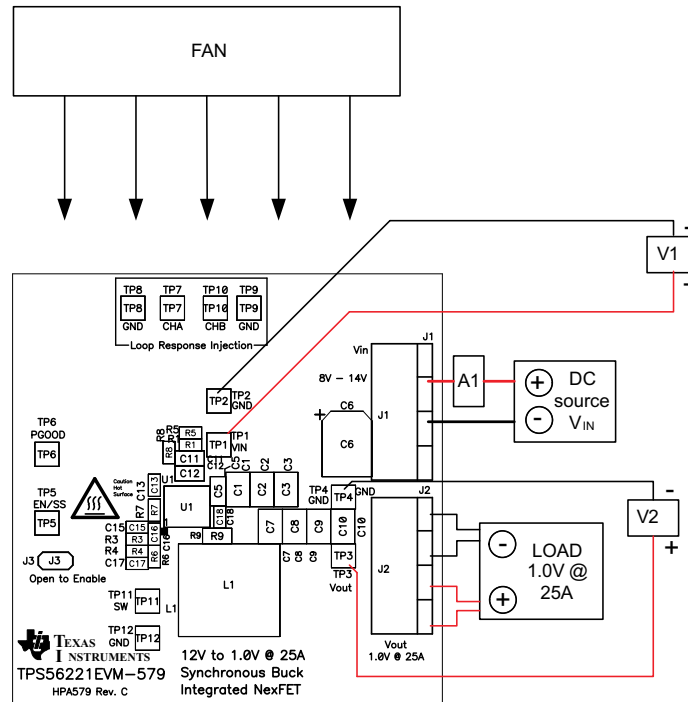

Figure 5-1. TPS56221EVM-579 Recommended Test Setup
Figure 5-1 is the recommended test setup to evaluate the TPS56221EVM-579.
2. Prior to connecting the DC input source, V_{IN}, it is advisable to limit the source current from V_{IN} to 4.0 A maximum. Make sure V_{IN} is initially set to 0 V and connected as shown in Figure 5-1.
3. Connect V_{IN} to J1 as shown in Figure 5-1.
4. Connect ammeter A1 between V_{IN} and J1 as shown in Figure 5-1.
5. Connect voltmeter V1 to TP1 and TP2 as shown in Figure 5-1.
6. Connect voltmeter V2 to TP3 and TP4 as shown in Figure 5-1.
7. Place the fan as shown in Figure 5-1 and turn it on, ensuring that the air blows directly across the evaluation module.
1. Set up the EVM as described in Section 5.3 and Figure 5-1.